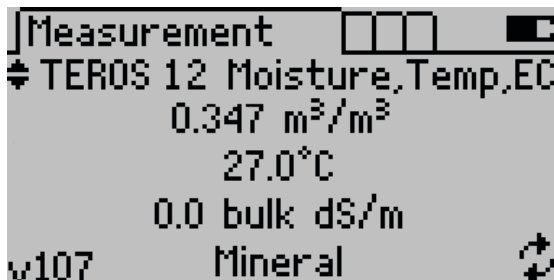

Figure 5 Measurement screen with live update mode activated
4. Press **ENTER** to engage the live update mode (Figure 5).